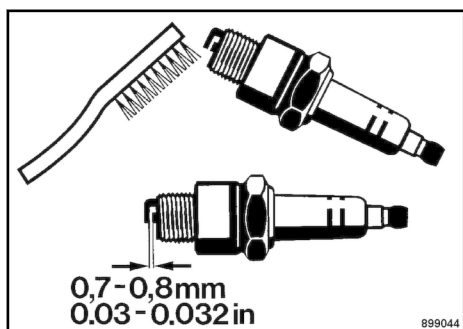

Fig. 169
1. Check the spark plug visually and clean it if necessary ↪ Fig. 169.